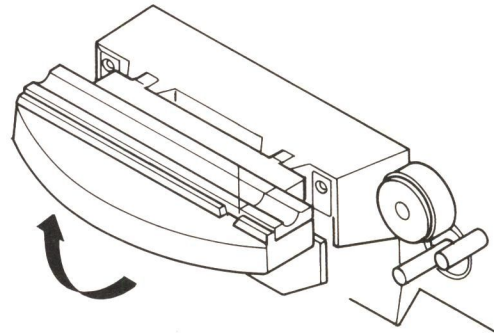
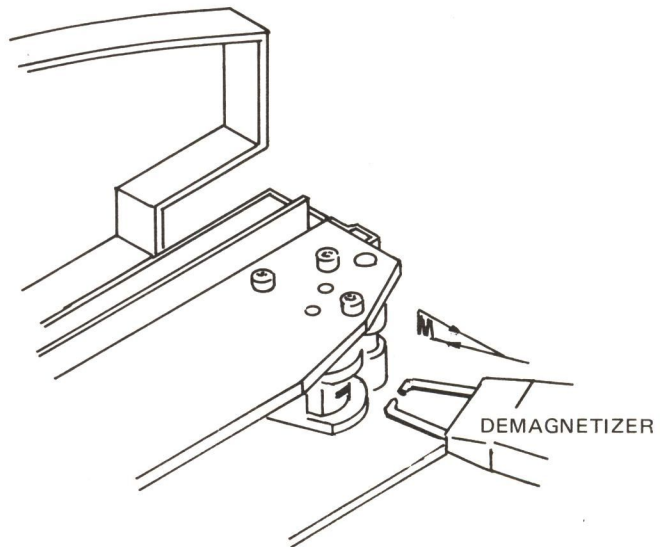

Fig. 4-1 Lifting the Head Cover
Fig. 4-2 Demagnetizing
- (1) Lift the head cover as illustrated in Fig. 4-1.
- (2) Clean each head stack thoroughly with a cotton-tipped applicator dampened with head cleaner.
- (1) Turn the unit's power off and remove any recorded tape near the transport. The tape could be partially erased by the demagnetizer.
- (2) Lift the head cover as illustrated in Fig. 4-1.
- (3) Cover the demagnetizer tips with adhesive tape to prevent scratching the head stacks.
- (4) With the demagnetizer held away from the transport, connect the demagnetizer to a power source.
- (5) Move the demagnetizer tips slowly close to the head, lightly touch the face of one head stack and slowly move the tips up and down the stack several times. Then slowly withdraw the demagnetizer as shown in Fig. 4-2.
- (6) Repeat step (5) for each head stack.
- (7) Repeat the procedure in step (5) for each guide and other metallic parts in the tape path.
- (8) Move the demagnetizer slowly away from the transport at least three feet, and then disconnect the power from the demagnetizer.